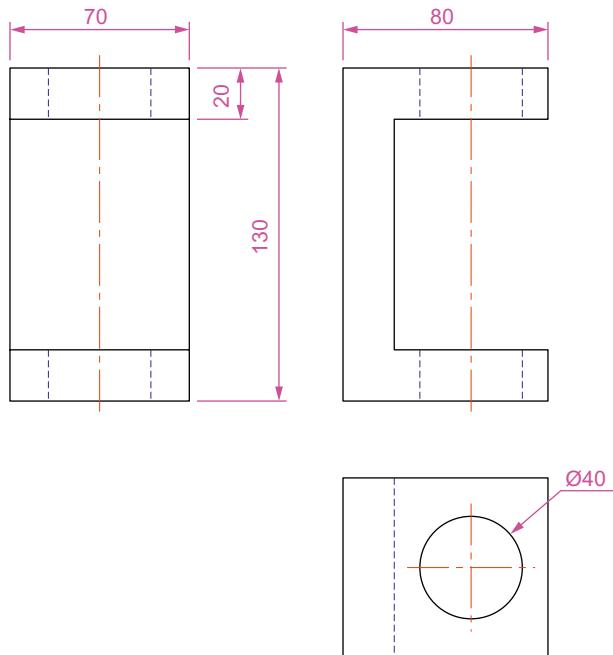

Fig. 7.20 First example – isometric drawing – the model
1. This example is to construct an isometric drawing to the details given in the orthographic projection (**Fig. 7.20**). Set Snap on (press the **F9** function key) and Grid on (**F7**).